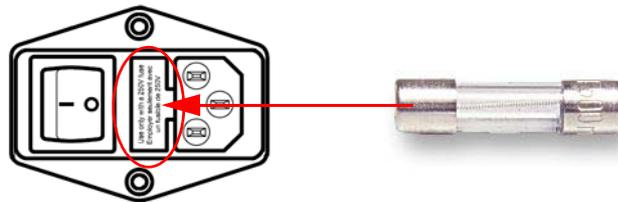

Fig. 45: Fuses (2x) in the combination element at the rear of the device
3. Pull the fuse holder out of the combination element using a small screwdriver (→ see Fig. 45).